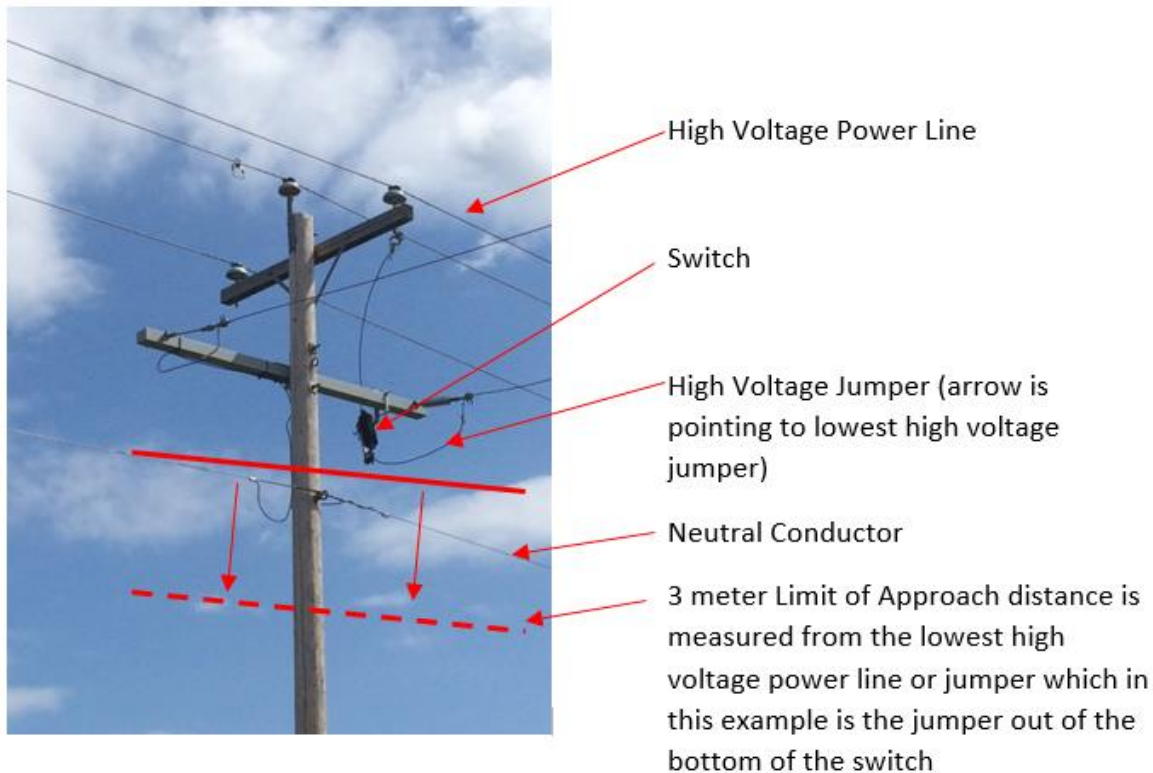

Figure 8 -Three Phase Power Line with Single Phase “Tap” on Crossarm
- 7.3.2. Figure 8 is another example of a 3 phase power line with a single phase tap off of it. The difference is that this time the tap is located on a crossarm and not attached directly to the pole. A switch is also attached to the crossarm with high voltage jumpers connected to both the top and bottom of the switch.